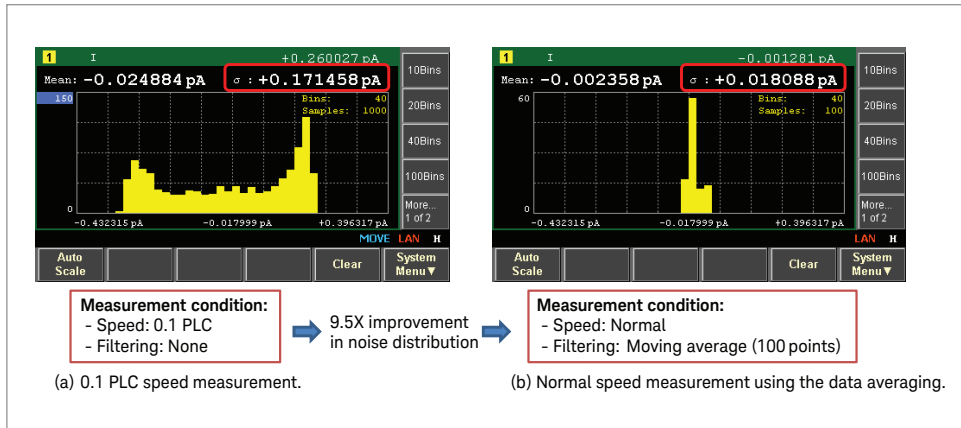

Figure 4. Using histogram view and other functions to improve measurement data.
Figure 4 shows an example of this procedure using the B2980A’s Histogram View. The two histograms show the profound effect that measurement speed and data filtering can have when making measurements in a noisy test environment.
Figure 4(a) shows Histogram View results using 0.1 power line cycle (PLC) measurement speed and no filtering. The histogram distribution exhibits peaks at both ends and the measured sigma is 0.17 pA. Figure 4(b) shows the same measurement performed using Normal speed (which does PLC averaging) and a 100 point moving average filter on the measurement data. In this case the measured sigma is 0.018 pA, which is about 9.5 times ( $= 0.17/0.018$ ) smaller than the sigma shown in Figure 4(a).
*Note: The sample histogram shown in Figure 4(a), which has a bimodal distribution with peaks at both ends, is typical of the situation where sinusoidal power line voltage is the main noise source. Figure 4(b) illustrates that the line frequency noise components can be filtered out using power line cycle integration and data averaging.*